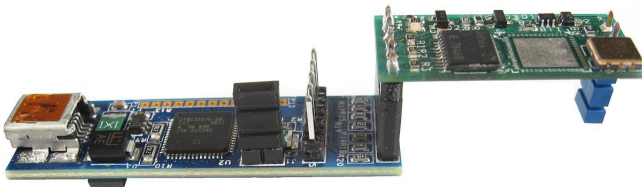

Figure 3. Connection of Cypress and Cymbet boards.
- 2) Connect the Cypress USB-to-I²C converter to the Cymbet Demo Board as shown in *Figure 3*.
- 9) If the EnerChip cell is depleted, the VL indicator (voltage low) will be displayed in the GUI. In this case, then the operation of the Epson RTC module is in an unknown state and indications are not valid. To clear the VL indicator, set a new time. The VL indicator can be forced to activate by pulling the BAT ENB shunt jumper J3 (see *Figure 3*) from the backside of the Demo Board and then turning off the RTC Power button.